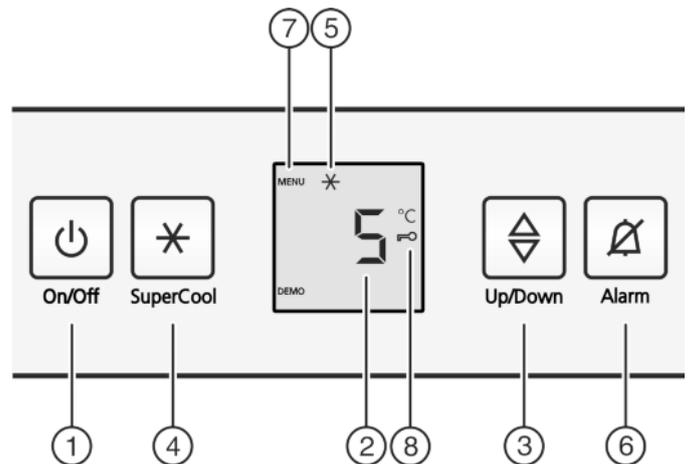

Fig. 2
- ▶ Press the On/Off button *Fig. 2 (1)*.
- ▶ Press the SuperCool button *Fig. 2 (4)* for about 5 seconds.
- ▷ The Menu symbol is shown on the display, *Fig. 2 (7)*.
- ▶ Confirm briefly with the SuperCool button *Fig. 2 (4)*.
- ▷ The child lock symbol, *Fig. 2 (8)*, lights up on the display.
- ▶ Briefly press the On/Off button *Fig. 2 (1)*.
- ▶ Press alarm button *Fig. 2 (6)*.
- ▶ Call up temperature function: press the setting button *Fig. 2 (3)*.
- ▶ Change the temperature in 1 °C steps: Press the setting button *Fig. 2 (3)* until the required temperature is indicated in the temperature display.
- ▶ Briefly press SuperCool button *Fig. 2 (4)*.
- ▷ The SuperCool *Fig. 2 (5)* symbol lights up in the display.
- ▷ The SuperCool symbol *Fig. 2 (5)* goes out in the display.